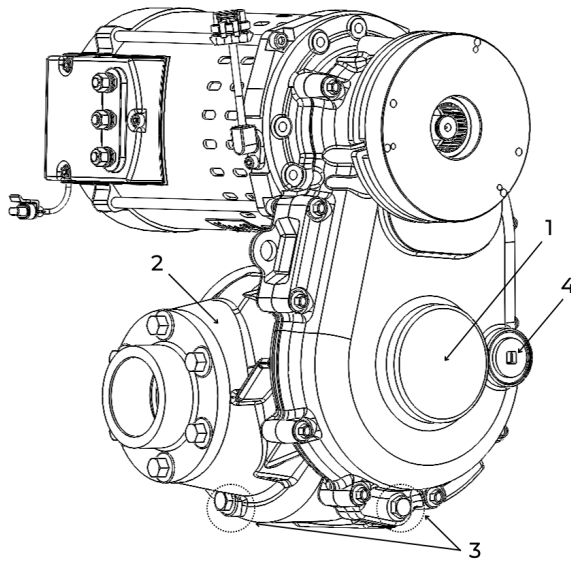

Figure 43. Aluminum Case Drain and Filler Plugs.
2. Remove the aluminum case filler plug (4). (Figure 43)